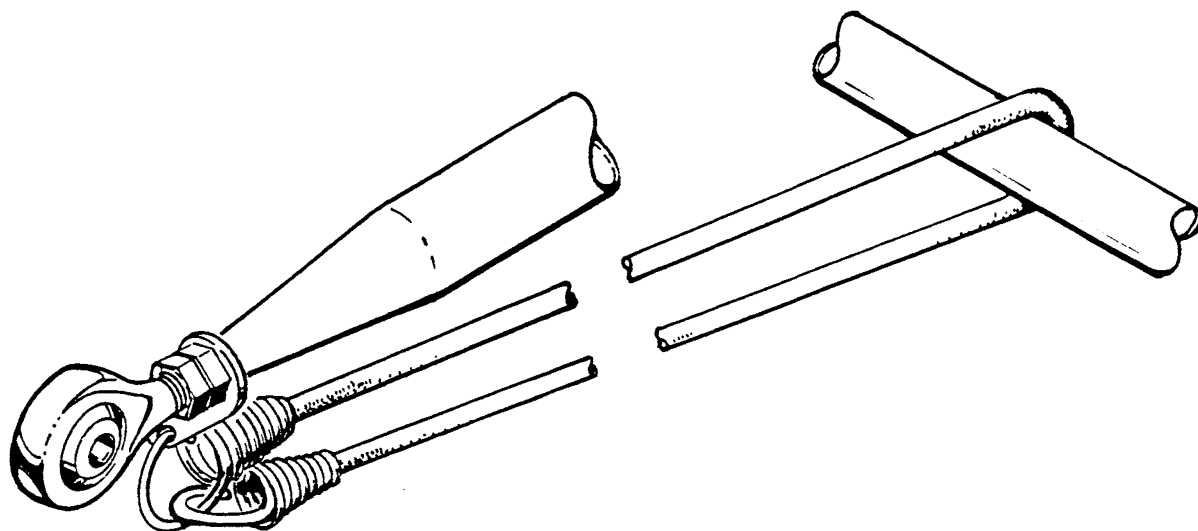

FIGURE 8-4B LONG ELASTIC TRIM CORD
- d) To remove long elastic trim cord installed as shown in Figure 8-4B, disconnect bottom hook and relieve tension on cord to remove the top hook connected to front tab of A121-1 push-pull tube.
- c) For long cord installation see Figure 8-4B